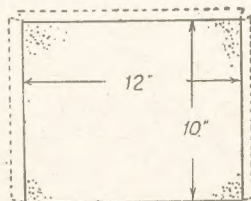
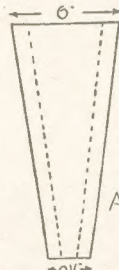

Fig. 1—A suggested size
Fig. 2—End flaps
Fig. 1 shows a suggested size, the dimensions being given only when no almanac is available. Otherwise the dimensions of Fig. 1 should be the same as those of the almanac to be made use of. Cut two of Fig. 1 and cut, from plain or
From the linen or lining material mentioned, cut two gussets to the shape at (A) in Fig. 2. Width at top and bottom are given, the length will be the same width at Fig. 1, or whatever the almanac measures, plus $\frac{1}{2}$ in. at top and
The detail sketch (B) in Fig. 2 will show the foregoing details and make all